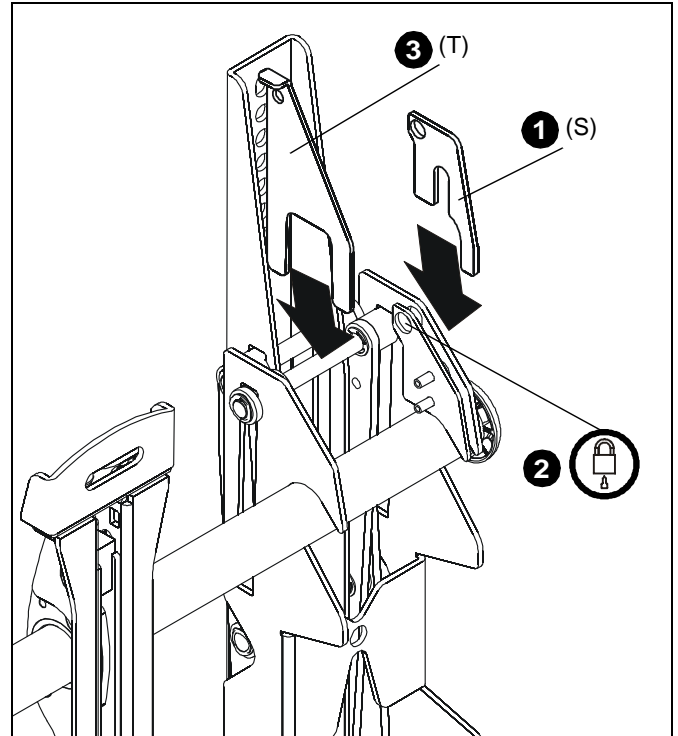

Figure 15
1. Add security bracket (S) to the mount. (See Figure 15)
bracket (S) and mount. (See Figure 15)
3. Add hold-back bracket (T) to the mount to secure mount in recessed position. (See Figure 15)